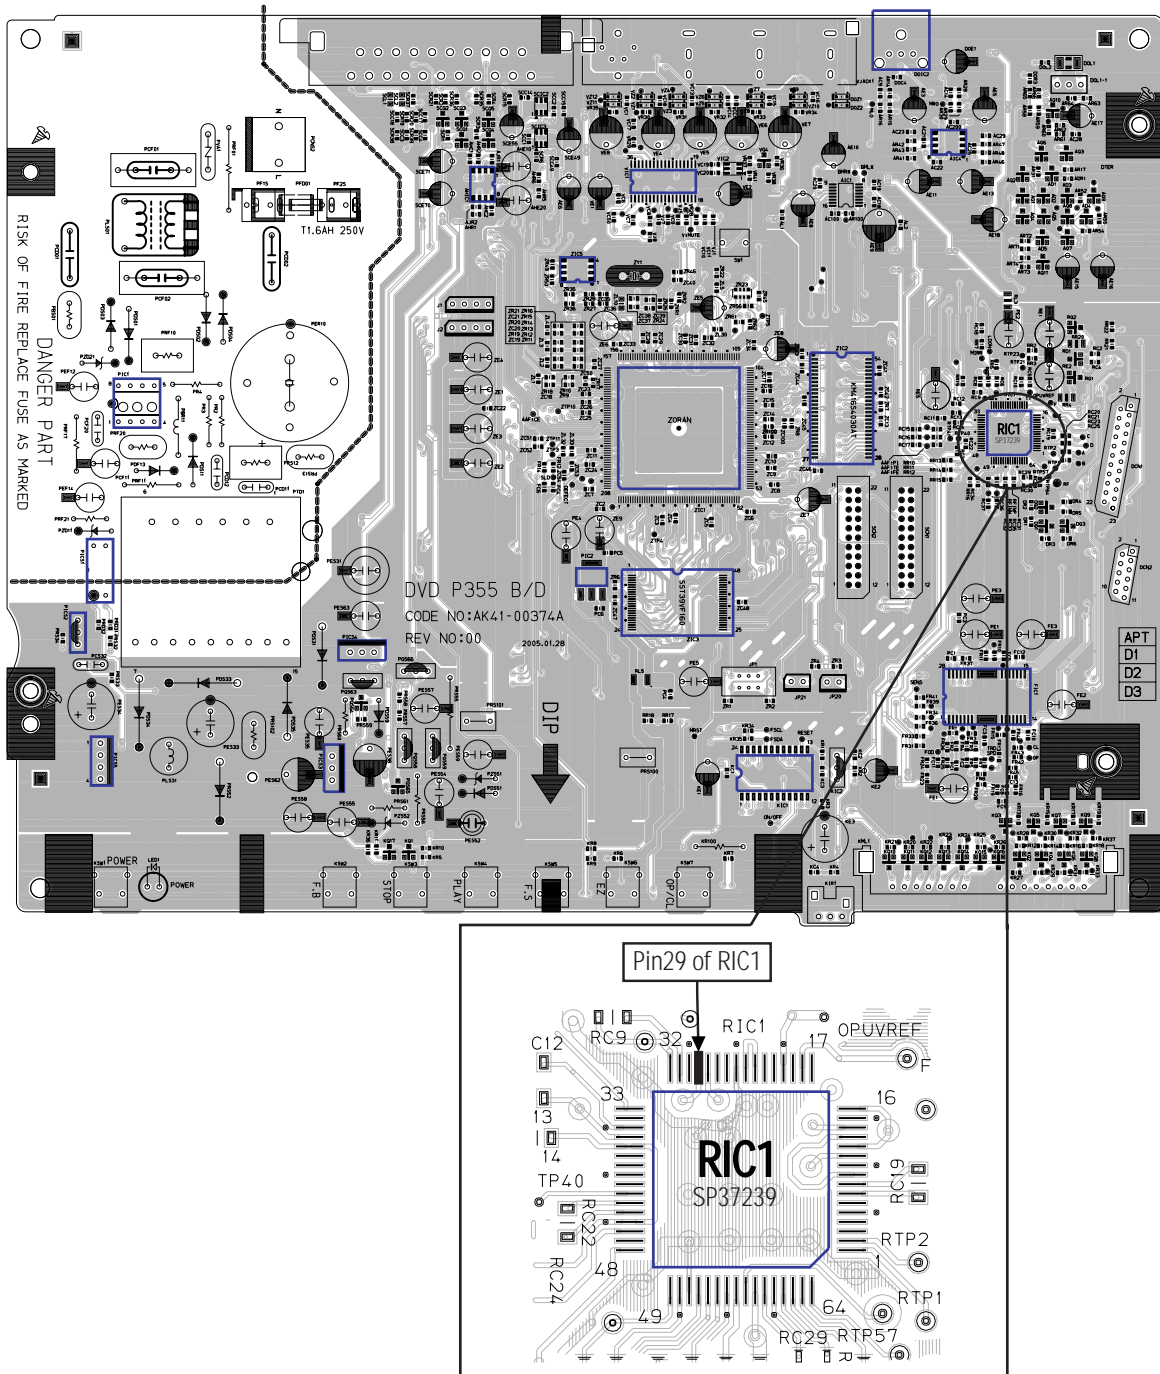

Fig. 3-1 Location of Test Point
- 1) Connect an Oscilloscope to the "Pin 29 of RIC1" Test Point (See Fig. 3-1)